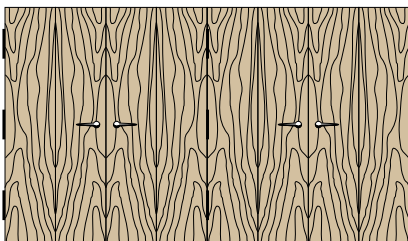

Figure: 9-002
- **Set Match** - Three or more doors or two or more Pair Matched doors hung adjacent may be (and in some Grades, must be) specified as a Set Match. Note to specifying authority: Specifying Set Matched only means the three or more doors are to be considered Set Matched as per the Grade specified, it does not mean the veneer is sequenced, nor does it designate the veneer cut or layup. The Grade specified will determine the type of Match required. Sequencing, veneer cut and layup if different from the Grade Rules must be specified. The illustration in Figure 9-002 shows flat or plain cut, book matched, center matched faces.